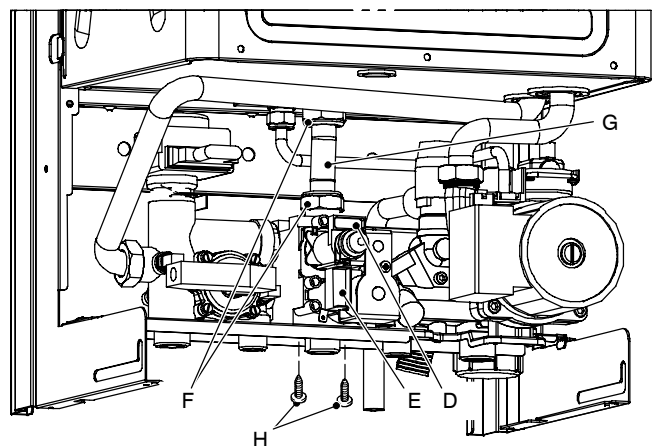

Fig. 57
- 2 Disconnect the connectors *D* (Fig. 57) from the modulating operator and measure the electrical resistance of the coil. Its electrical resistance value must be approx. $114 \Omega^*$.
- 2 Disconnect the electrical connector *E* (Fig. 57).
- 2 Disconnect the connectors *D* and *E* (Fig. 57).